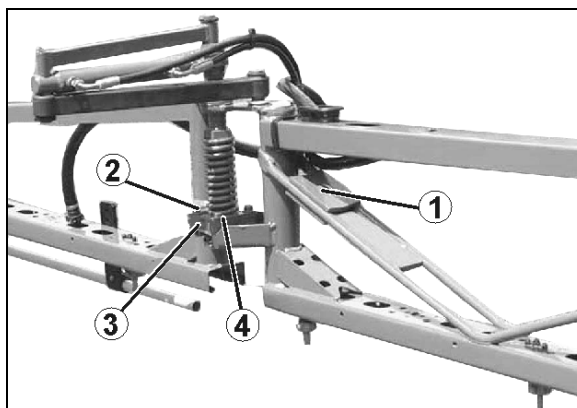

Fig. 171
1. Check whether the oil level is visible at the mark (Fig. 171/1) with the pump not running and standing on a flat surface.
2. If the oil level is not visible at the mark (Fig. 171/1), remove the lid (Fig. 171/2) and top up with oil.
2. Remove the lid (Fig. 171/2).
5. Turn the drive shaft left and right alternately and slowly fill with new oil. The right quantity of oil has been reached when the oil is visible at the mark (Fig. 171/1).